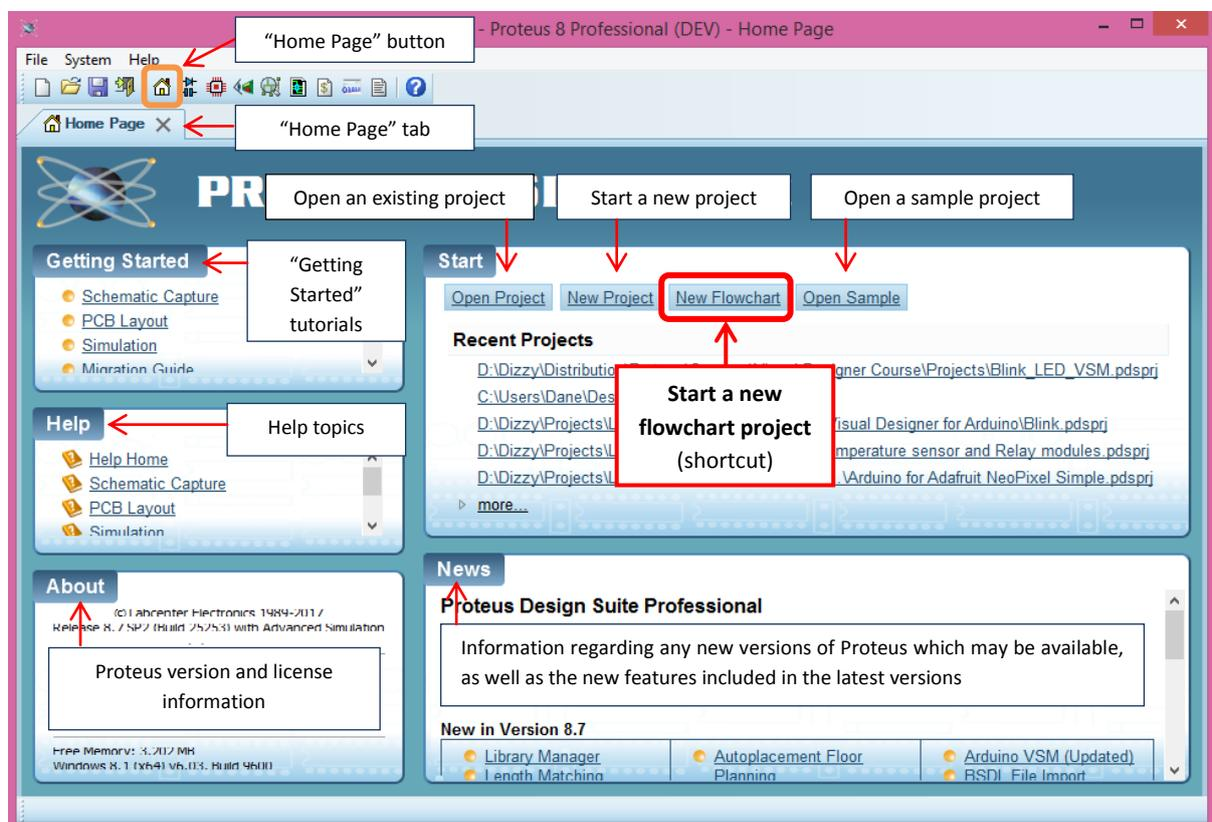

Figure 2-1: Proteus “Home Page”
Step 2: In order to start a new flowchart project, the **“New Flowchart”** option should be selected in the **Start section** of the Proteus desktop screen (see Figure 2-1). This will then launch the New Project Wizard for starting a new flowchart project (Figure 2-2).